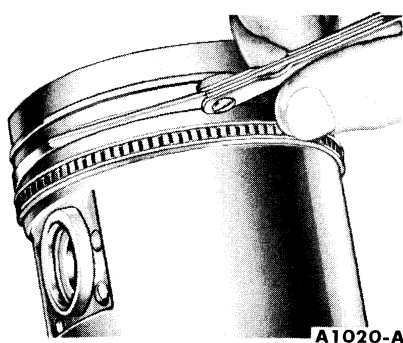

FIG. 27—Ring Side Clearance
6. Check the ring side clearance of the compression rings with a feeler gauge inserted between the ring and its lower land (Fig. 27). The gauge should slide freely around the entire ring circumference without binding. Any wear that occurs will form a step at the inner portion of the lower land. **If the lower lands have high steps, the piston should be replaced.**